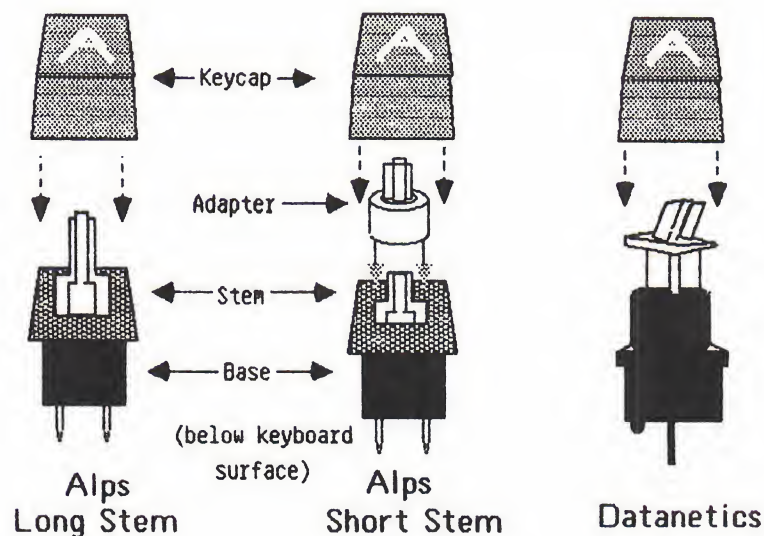

FIGURE 1
2. Before identifying the keyswitches, here are some important distinguishing features you should know: a) Only Alps short stem keyswitches have adapters, small plastic pieces that fit on the stem to make it longer. b) Alps long stem keyswitches are capped directly with the keycap. c) Datanetics keyswitches have a square collar on the middle of the stem. Refer to Figure 1 below for the differences between the Apple II keyswitches.
4. If you cannot identify the keyswitch using Figures 1 and 2, then remove the keyboard and look for the name "Datanetics" on the PCB.*
5. Check to see if you find an adapter on the keyswitch. If there is an adapter, then the keyboard is an Alps short stem. If there is not an adapter, then the keyboard is an Alps long stem. Verify this by checking Figure 1, page A.1.